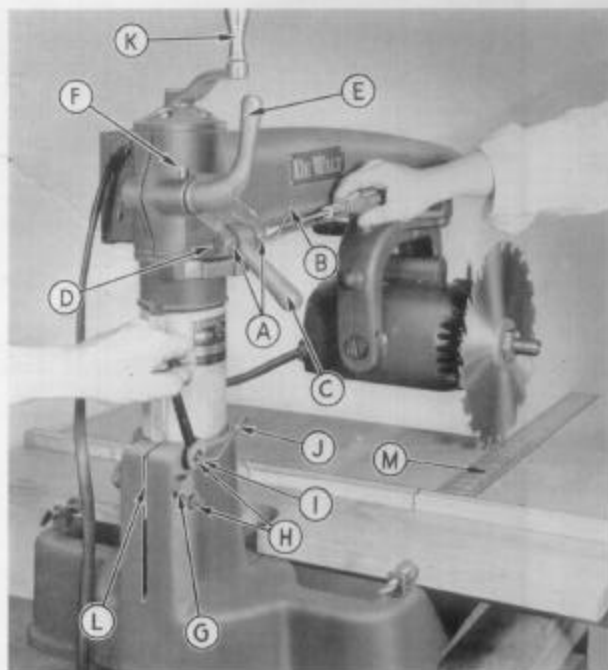

FIGURE 9
Place wide board on table top against guide fence and cut across with saw blade. Check material for accuracy with steel square. If the saw blade does not cut square ... this means that the arm is out of alignment with the guide fence. To adjust this condition refer to Figure 9.
If at any time you have some side motion at the end of the arm after the arm clamp handle (E) is tightened . . . this indicates that there is play between the column and base. Refer to Figs. 9 and 10.
1. Loosen base pinch bolt (G) . . . all hex jam nuts (H) . . . and all set screws (I).
2. Rotate elevating crank handle (K) to raise or lower the column. Tighten base pinch bolt (G) so column still raises or lowers freely. There should be no excess play between column and base after you have tightened this base pinch bolt . . . yet the column must be so set that it elevates evenly.
3. In the base slot is an adjusting gib (L). This gib must be secured against column key (2D) to prevent side motion in the arm. If this gib (L) is loose . . . you tighten the top set screws (I) with wrench (J) until there is no play (side motion) in the column. Then lock all hex jam nuts (H) securely with open end wrench.